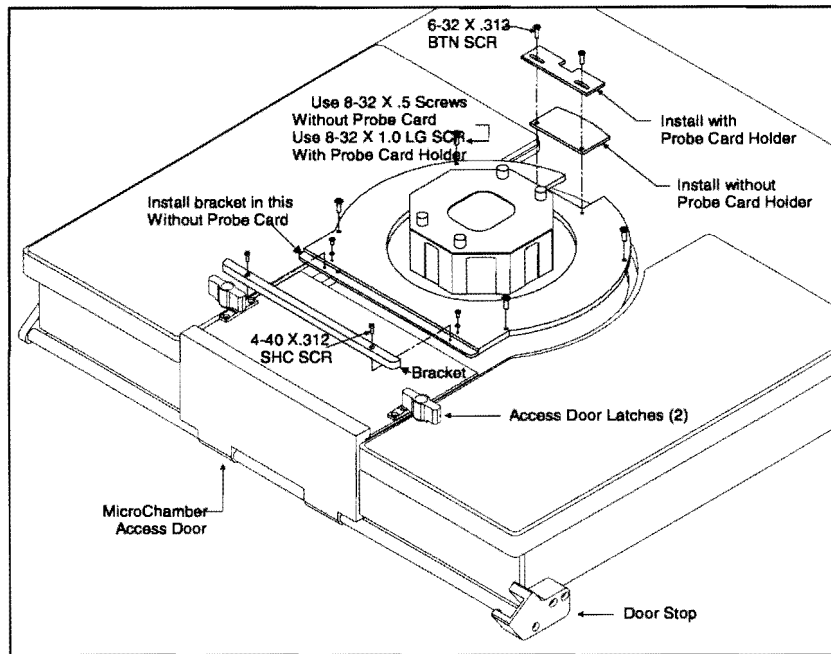

Figure 11
The MicroChamber includes the top-hat, access door, walls, and platen insert plate (see Figure 11).
To protect you from hazardous voltages and temperature extremes on the chuck, the MicroChamber access-door has two 90° "quick connect" latches. The latches should be securely fastened when the MicroChamber access door is closed (see Figure 11).
2. Remove the (4) 8-32 screws in the platen's center disk (see Figure 11).